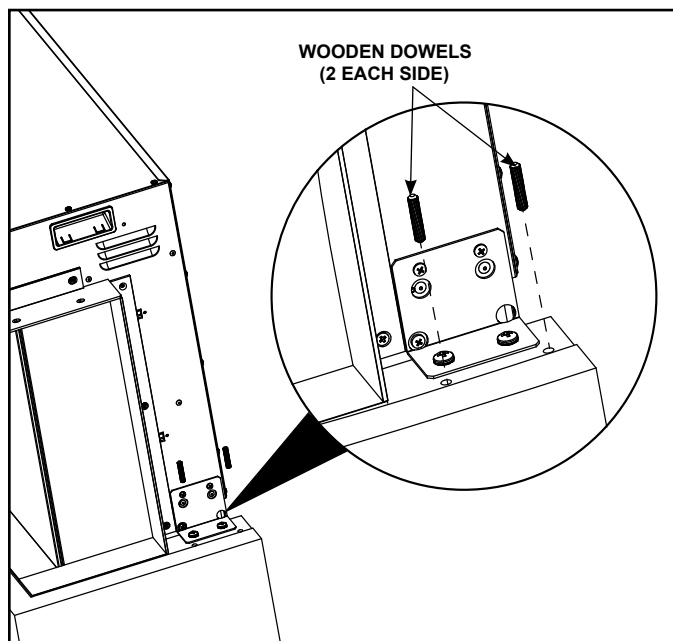

Figure 15
7. Insert the four (4) wooden dowels into the open holes of the bottom mantel. See Figure 15.